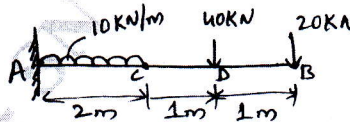

Fig.Q3(b)
- b. Find the reactions at the fixed and draw the SFD and BMD for the cantilever shown in Fig.Q3(b).